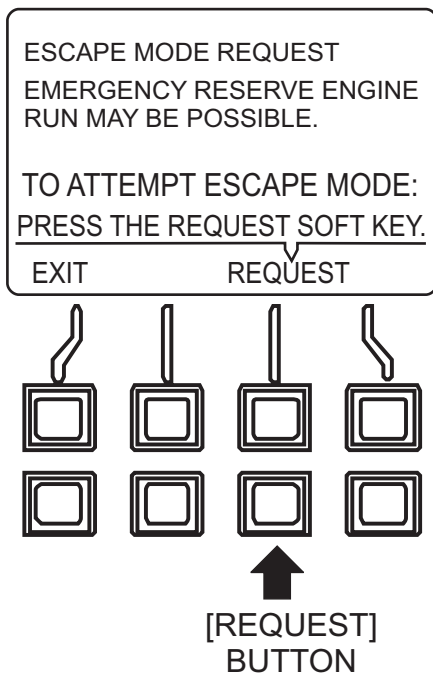

Figure 95. Escape Mode Menu Screen
6. Press the **[REQUEST]** button (Figure 95) to send “Escape Mode Request” signal to ECM.